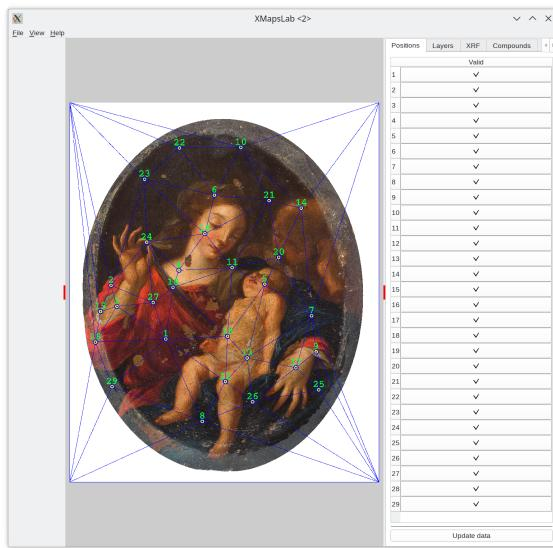

Figure 5.25: The triangulation with the added corners is shown.
- * **With corners:** This option displays the Delaunay triangulation including the corners, which are assigned a value of 0 (Figure 5.25).